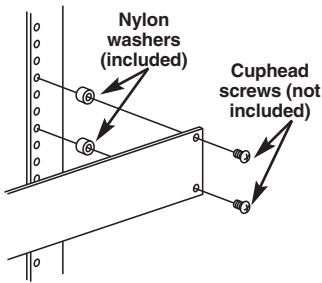

Figure 4. Connecting the panel to the rack.
4. Using (2) cuphead screws (not included) and (2) nylon washers (included) attach the other side of the panel to the rack. See Figure 4.